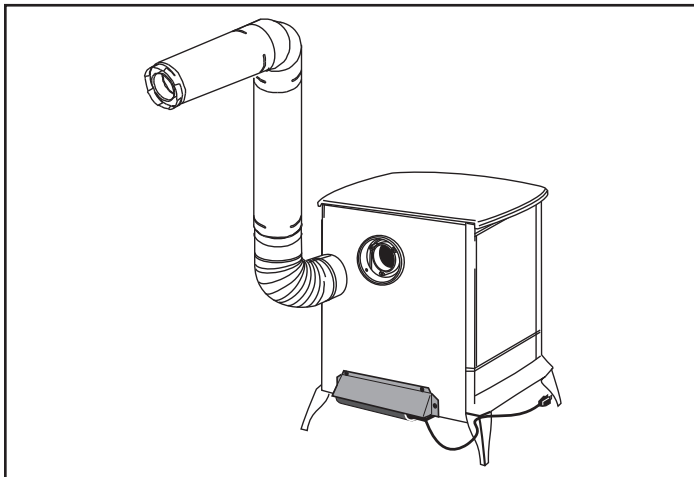

Figure 22
Step 2 - DirectVent Pro pipe and fittings are designed with special twist-lock connections. To connect the venting system to the appliance flue outlet, a twist-lock appliance adaptor is built into the appliance at the factory. Assemble the desired combinations of black pipe sections and elbows to the appliance adapter with pipe seams oriented towards the wall or floor, as much out of view as possible, Figure 22.